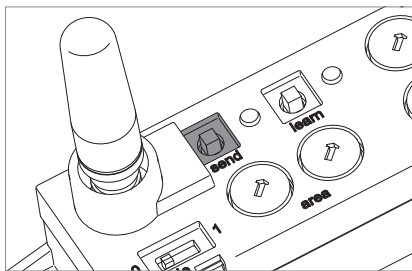

Fig. 20: "send" key.
- Press the "send" key, see Fig. 20.